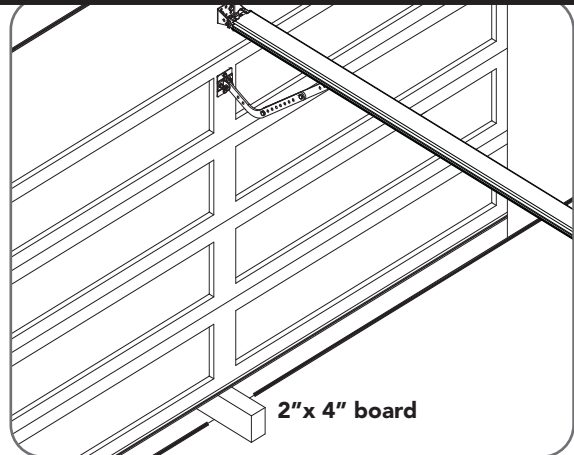

Fig.6.5.2
- Place an object approximately 1-1/2"(38mm) high (or a 2"x 4" board laid flat) on the floor directly under the door, **Fig 6.5.2**.